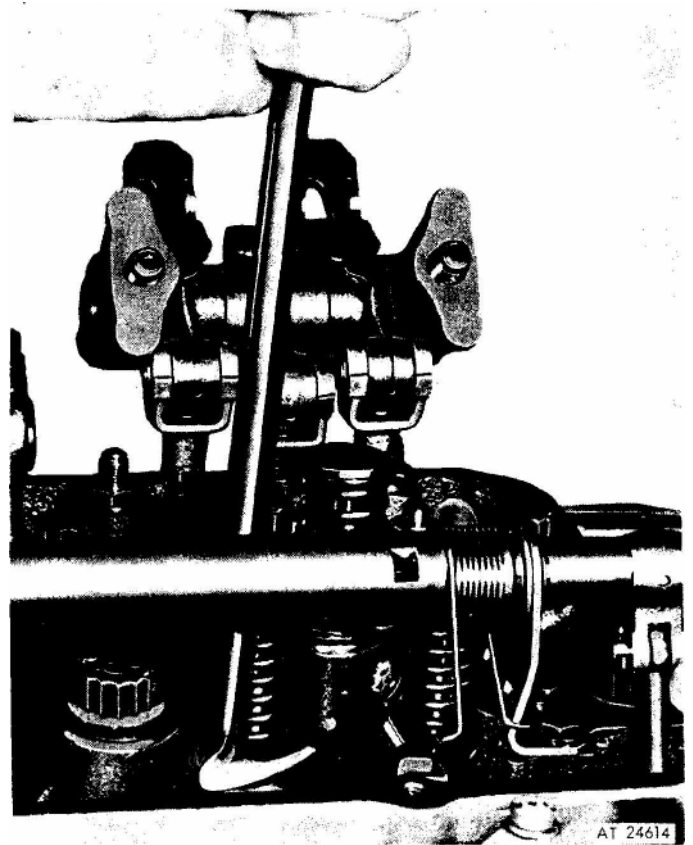

Figure 6. Removing injector from cylinder head.
7. Free the injector from its seat and lift it from the cylinder head (fig. 6).